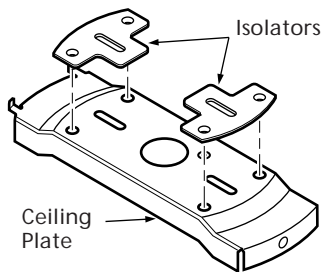

Figure 2a - Adding Isolators to Ceiling Plate
3. Your fan comes with two neoprene noise isolators. Position the isolators between the ceiling plate and ceiling by inserting the raised areas on each isolator into the holes in the ceiling plate. Refer to Figure 2a.